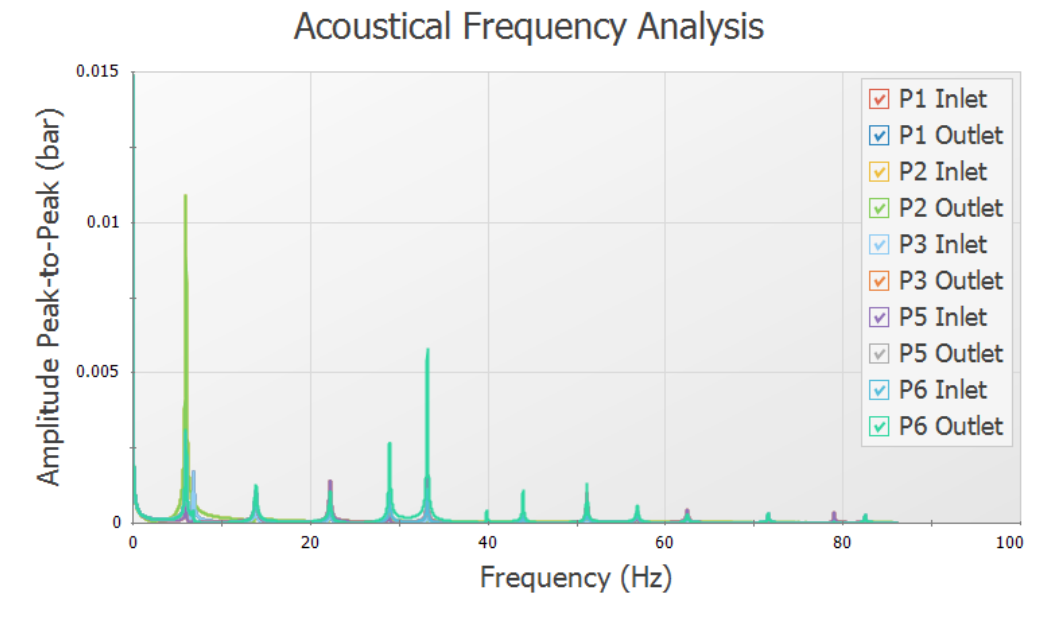

Figure 6.18 Excitation Frequency Analysis graph
4. Click Generate. The resulting graph (shown in Figure 6.18) represents the frequencies that are excited by the pulse defined in the Pulsation Setup group.
From the graph in Figure 6.18, we see that there are several frequencies that produce a large pressure magnitude. Points on the plot with a large response magnitude are easily identified by finding local maxima on the graph. These maxima are the acoustic natural frequencies that are potentially the most damaging when excited by the identified pump speeds.
Note that the graph in Figure 6.18 can quickly be changed to display the magnitude on a logarithmic scale in order to allow for easier viewing of the magnitude behavior changes with a changing frequency. To view the Acoustical Frequency Analysis graph with the magnitude displayed on a logarithmic scale, generate the frequency graph as discussed above. Right-click on the y-axis and select the box next to Logarithmic.